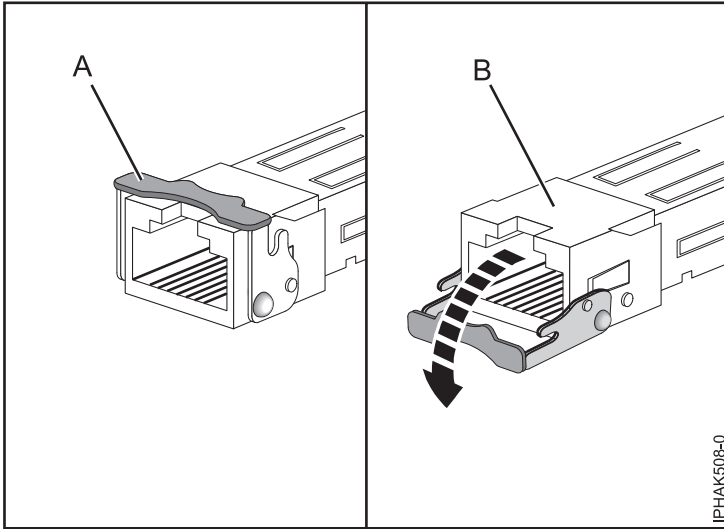

Figure 37. Removing SFP transceivers from adapters
- b. Open the latch (A) by rotating it down and away from the card as shown in Figure 37 on page 58.
- c. Slide the transceiver (B) out of the adapter hardware.